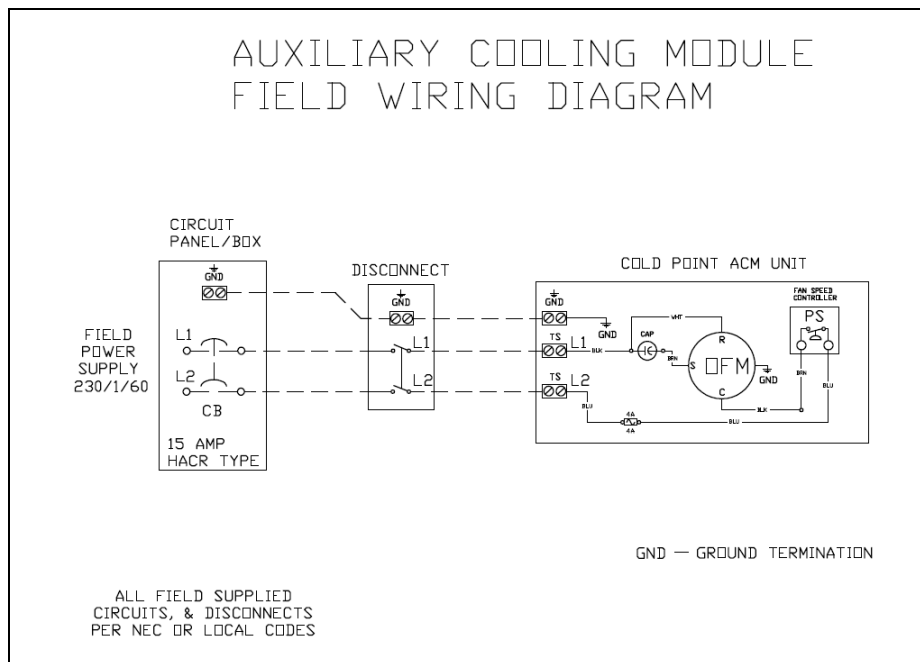

Figure 5. Auxiliary Cooling Module Field Wiring
2. Connect appropriately sized line voltage wires and ground wire to the Auxiliary Cooling Module, as shown in Figure 5.